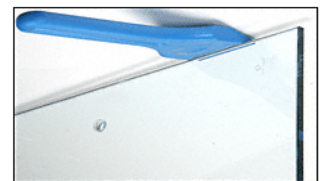

Figure C3:
6. With the plate glass lifter (Figure C3), lift the panel away from the glass at the top outside corner and either add or remove/replace with a thinner shim (depending on which direction the panel needs to be squared). Measure the panel diagonally to confirm it is square, and then tighten all 4 corners. Re-install all glass stops.